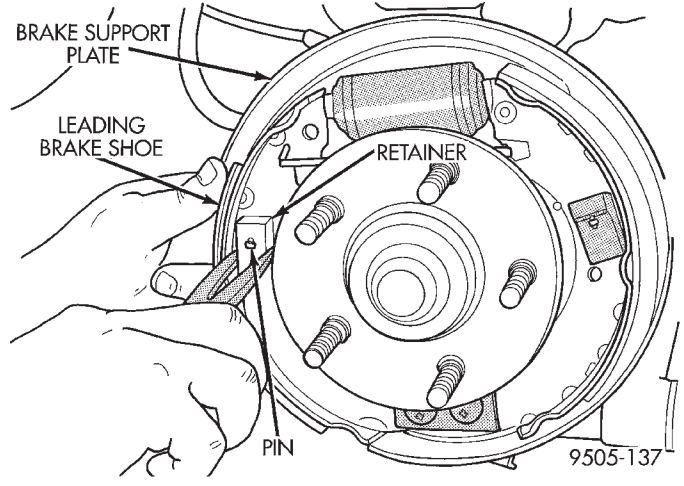

Fig. 111 Leading Brake Shoe Retainer
(9) Remove the brake shoe retainer and pin (Fig. 111) from the leading brake shoe assembly.
(6) Be sure leading brake shoe assembly is squarely seated on the brake support plate shoe contact areas. Then install the brake retainer on the retainer pin (Fig. 111).